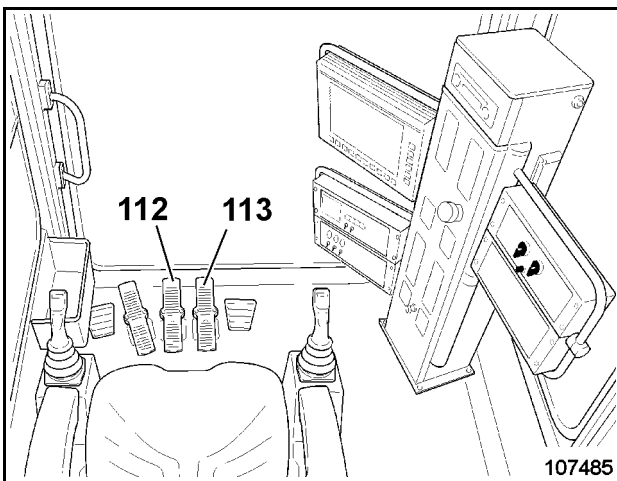

Fig. 2-115:
- depress only pedal(112, Fig. 2-115:) forwards